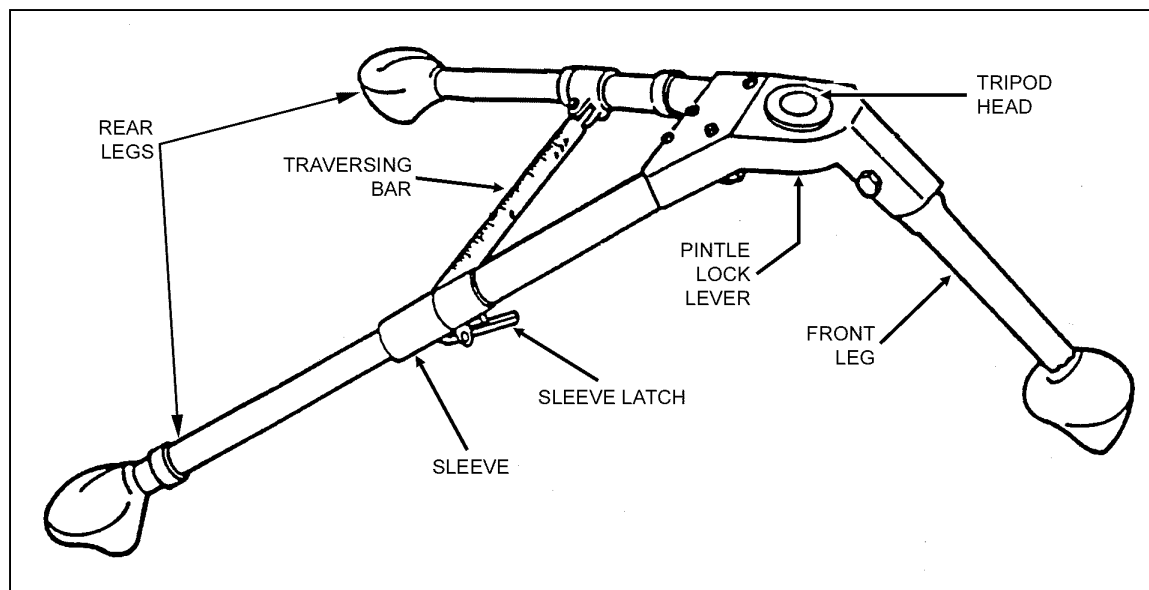

Figure 3-29. M122A1 tripod extended.
(2) The flex-mount consists of the mount itself and the traversing and elevating mechanism. It joins the weapon and the T&E mechanism to the tripod. The flex-mount enhances the stability of the tripod platform and dampens the recoil of the weapon.
(3) To setup the tripod, the gunner unfolds the front leg and spreads the rear legs until the leg lock engages (Figure 3-29, page 3-34).